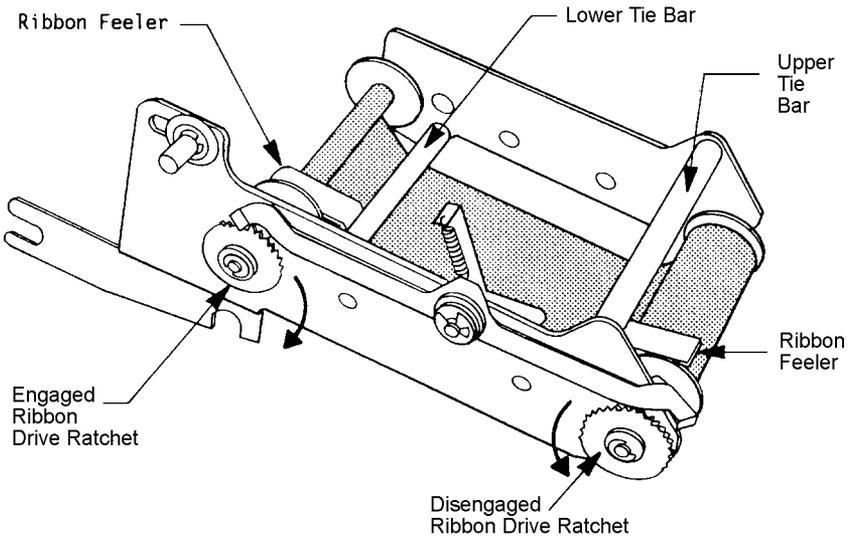

FIGURE 7
10. Remove all ribbon slack by turning the disengaged ribbon drive ratchet in the direction the arrow illustrates (See Figure 7) until the ribbon is snug against the lower tie bars. Ribbon drive mechanism is now ready to be installed on the machine.